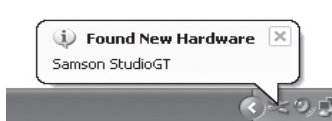

Figure 7
1. The first time you plug the Studio GT into a USB port, Windows XP will install the universal drivers for that port. A balloon tip will pop up, telling you it has found the Samson StudioGT (Figure 7).